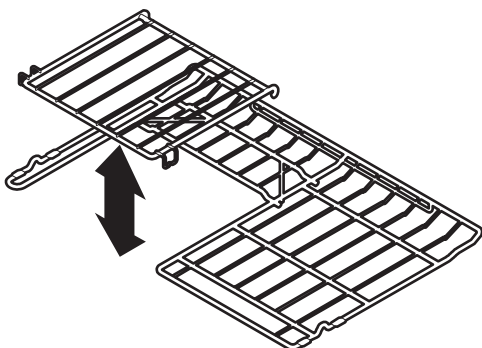

**Figure 1 - All models**
- **Flat handle oven rack** (All models - Figure 1).